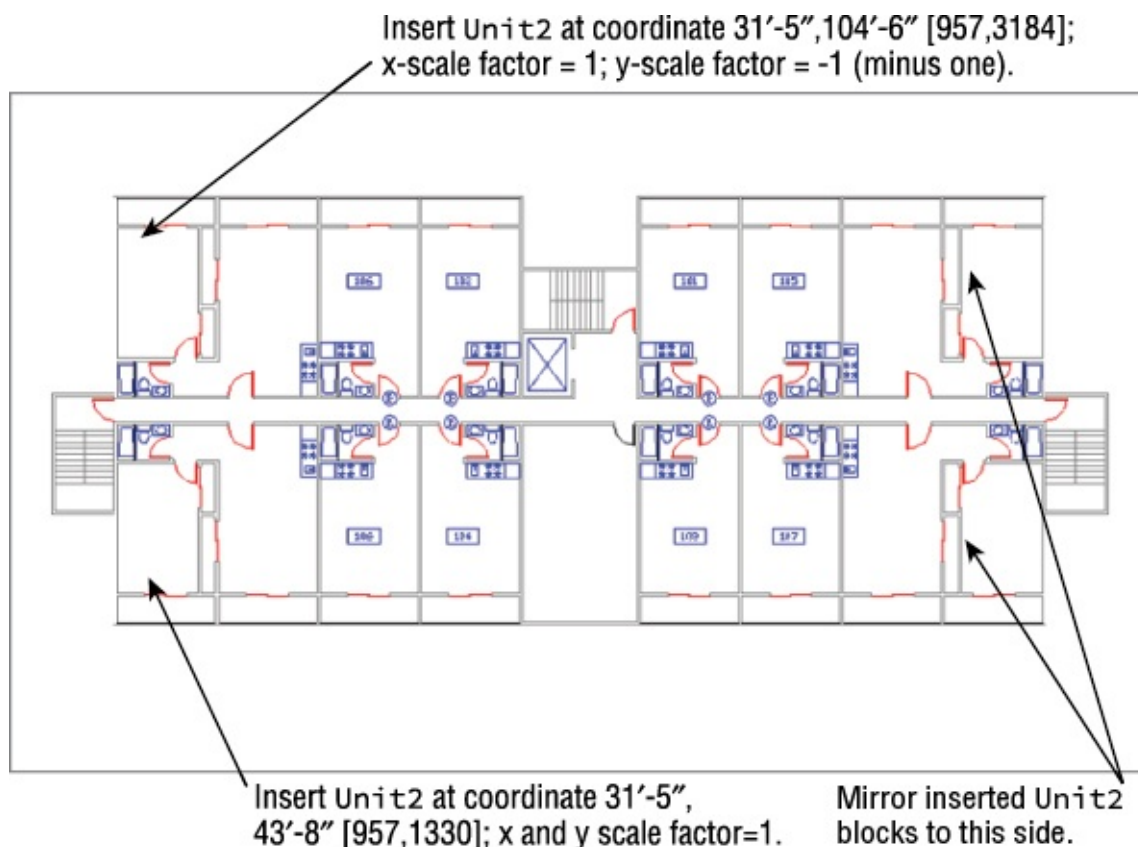

FIGURE 14.4 Insertion information for Unit2 metric coordinates is shown in brackets.
4. Using Figure 14.4 as a guide, insert the Unit2.dwg file into the corners where the other eight units were previously. Metric users should use Unit2-metric.dwg.